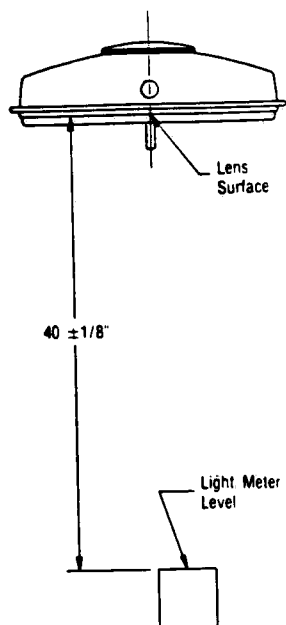

Figure 3-17. LIGHTHEAD AND LIGHT METER POSITIONING.
3.5.5 Light Optics Testing Procedure (Using Light Meter Kit, P-764315-933) (See Figures 3-17 and 3-18)
4. Position lighthouse so that rubber trim ring is 40 inches above and parallel to the top of the light meter. See Figure 3-17.